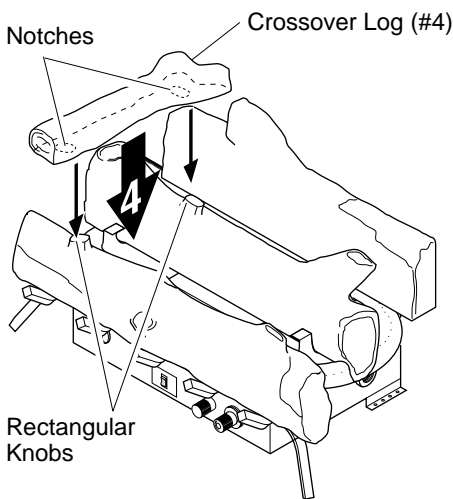

Figure 24 - Installing Crossover Log (#4)
4. Locate the notches in the bottom of the crossover log (#4). Place the crossover log on top of the middle log and front log. Make sure the notches of the crossover log lines up with rectangular knobs on top of the middle and front logs (see Figure 24).